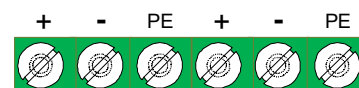

Figure 5-28: RS485 Data Cable Connector
Step 1. Extend the Data cable connected to Connection Box #1, out to the **Control Module** and connect it to the following terminals on the RS485 port of the Control Module (**Figure 5-28**).